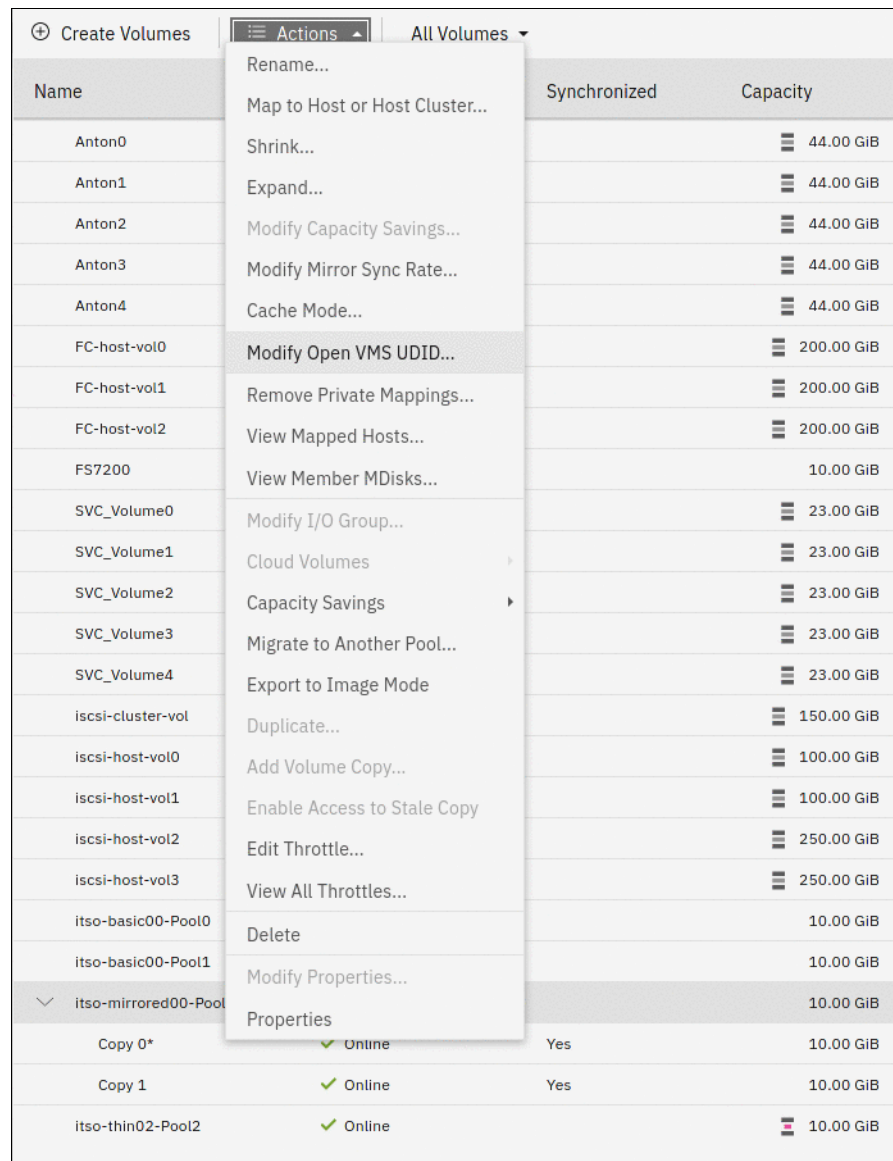

Figure 6-54 Modify Open VMS UDID menu item
1. From the **Volumes** menu, select the volume that you want to modify. Select **Actions** → **Modify Open VMS UDID...**, as shown in Figure 6-54.